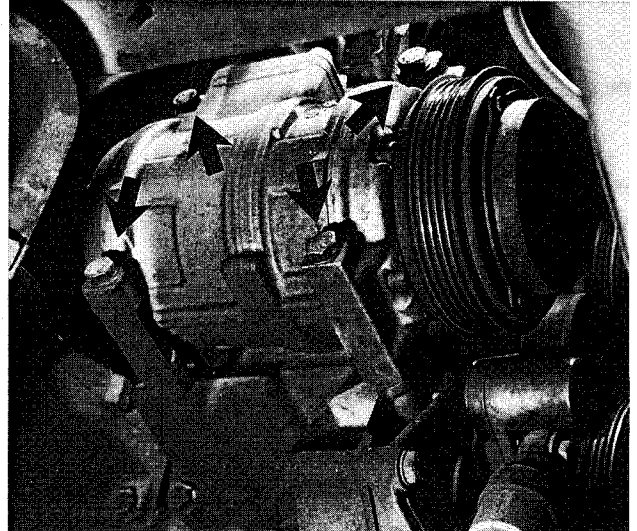

Fig. 38. A/C compressor mounting bolts (arrows).
8. Remove compressor mounting bolts. See Fig. 38. Remove compressor by pulling downward from underneath car.